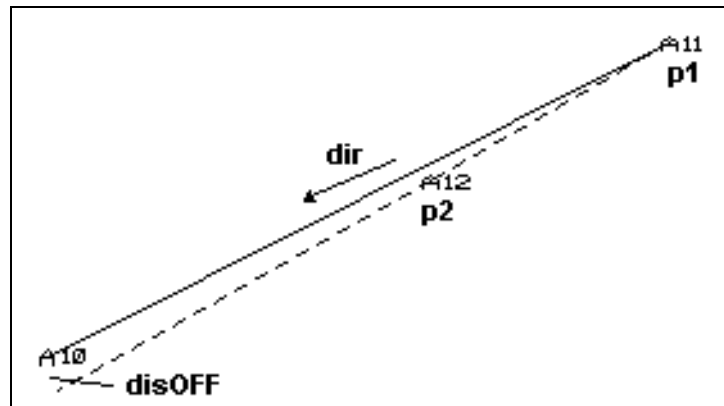

Figure 12.3: Locate Line Example Results
This example will place a point (10) in the direction of the points 11 toward 12. The distance will be beyond the point 12 and 10 units to the right. The result is illustrated in Figure 12.3 below.